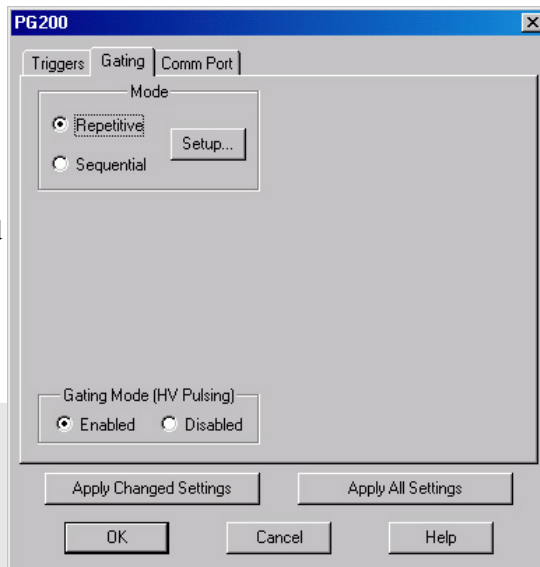

Figure 166. PG200 Gating tab page
4. Click on the **Gating** tab (Figure 166).